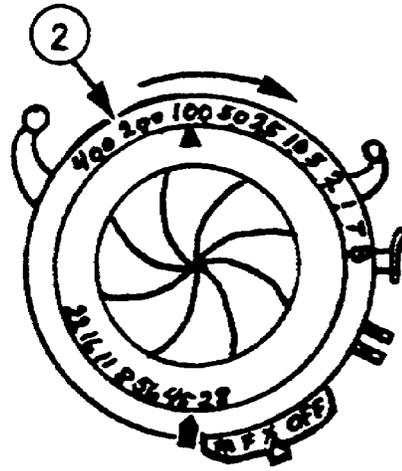

Figure 1-43. Speed Selector Ring.
(b) Rotate the speed selector ring ②, (fig 1-43), until the fiducial mark is opposite the desired shutter speed on the speed scale.